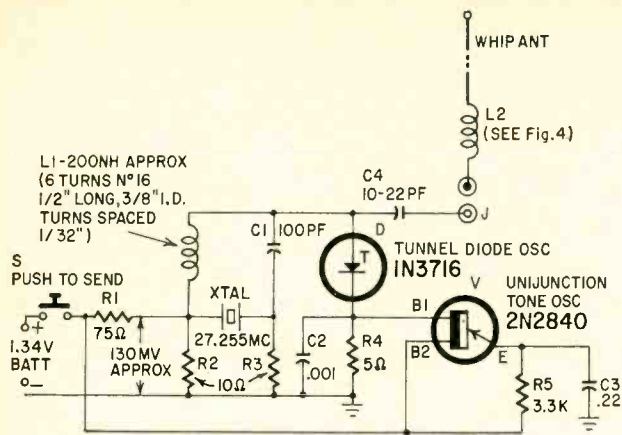

Fig. 2—Transmitter with unijunction modulator.
Although this circuit is attractive, experiments showed that the tunnel diode oscillates harder at the audio-tone-frequency than at the rf carrier frequency and that this simple circuit has a tendency to "unlock". This results in "sideband splatter" over too wide a frequency range and possible violation of the FCC Rules and Regulations governing interference. A separate audio oscillator allows one to feed just enough modulation power to the rf oscillator to limit the necessary side-band power and still attain the required range, but without "sideband splatter." Two such circuits are shown in Figs. 2 and 3. In Fig. 2, a 2N2840 unijunction transistor operates as a relaxation oscillator providing positive pulses to modulate the crystal-controlled tunnel
Parts list (for Figs. 2 and 3)
- R4—(Fig. 2) 5 ohms
- R5—(Fig. 2) 3,300 ohms
- V—2N2840 (Fig. 2), 2N2712 (Fig. 3)